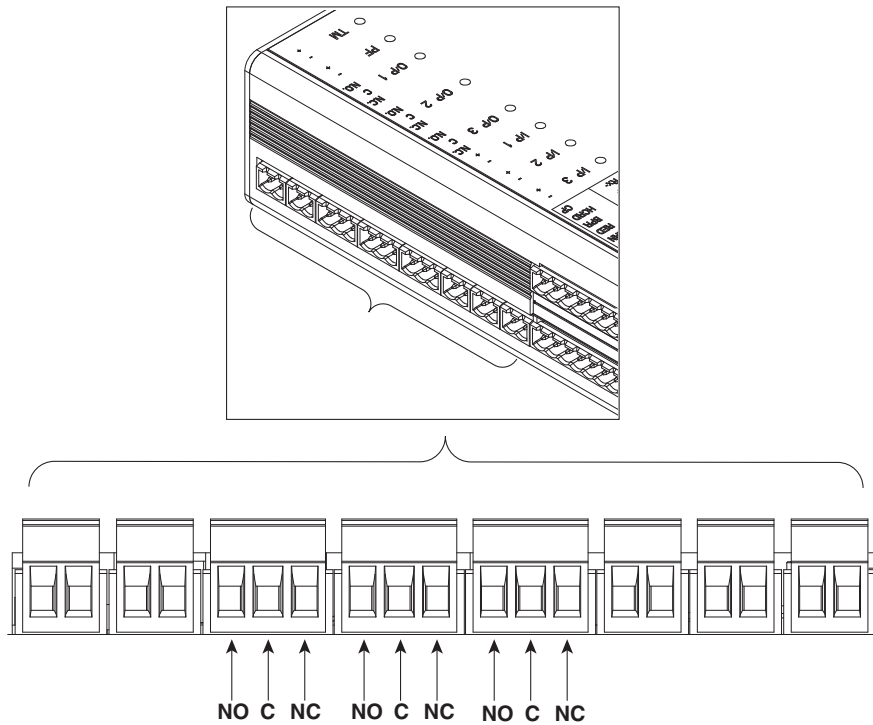

Figure 40: Output Connections on the Cisco Physical Access Gateway
8. Connect output devices to the gateway (see Figure 40 on page 45). Each of the three Form C (5A @ 30V) relay output connections can be configured as either Normally Closed (N.C.) or Normally Open (N.O.).
- Common (C) is always used, and either N.C. or N.O. is used to complete the connection.